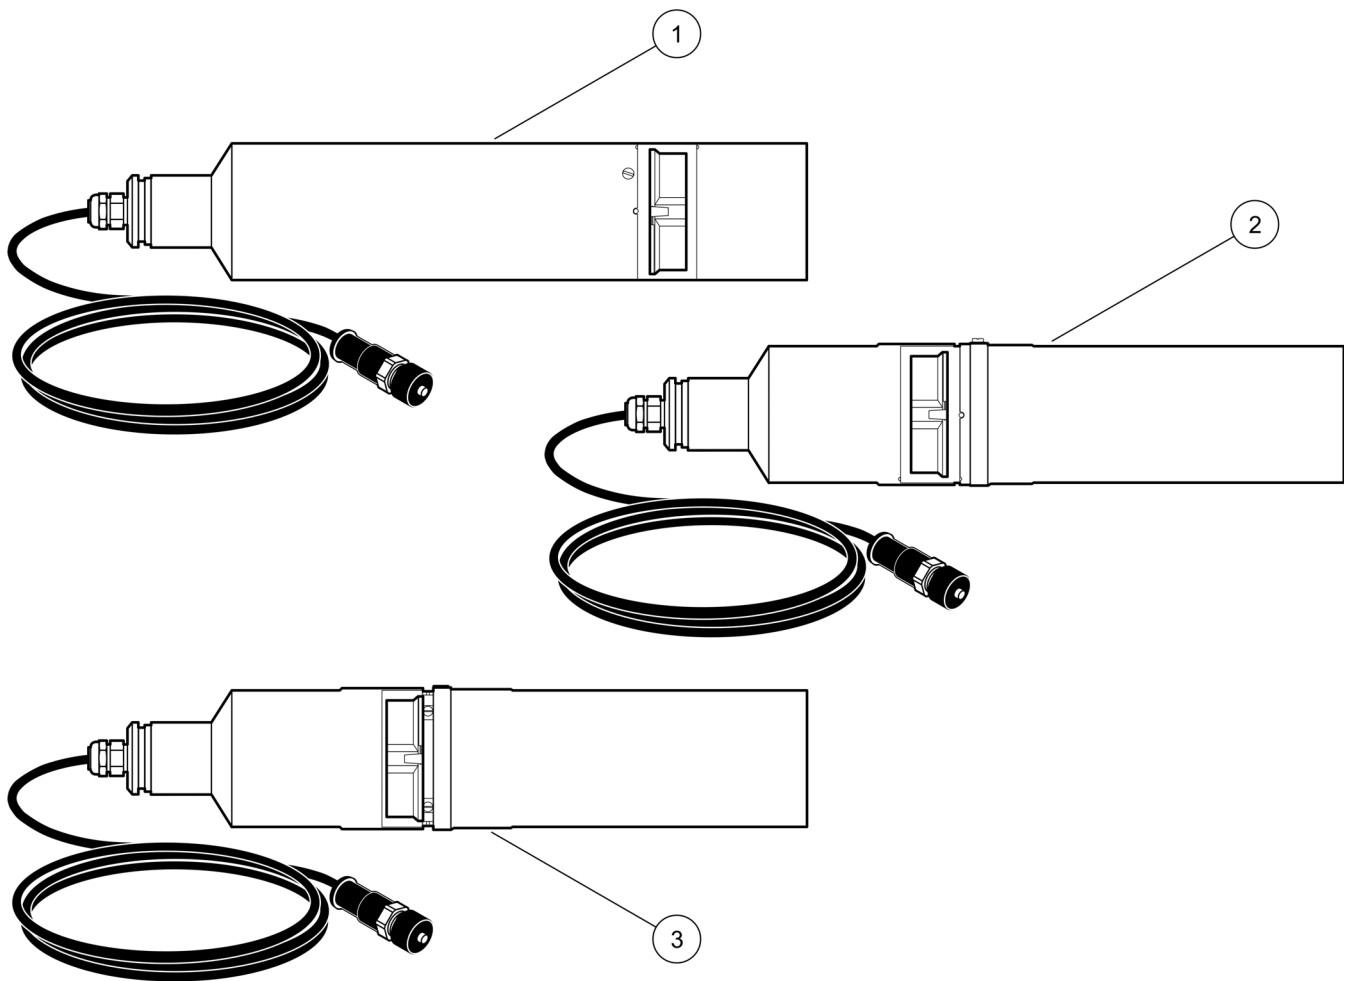

Figure 2 NITRATAX sc sensor versions
The **NITRATAX plus sc** (Figure 2, item 1) measures the nitrate concentration up to 100 mg/L N directly immersed in the medium. Use the sensor without the need for pumping and conditioning in activated sludge tanks in municipal sewage treatment plants, surface water, untreated water and treated drinking water. The system can also be used for checking the outlet on waste water treatment plants.
The **NITRATAX eco sc** (Figure 2, item 2) measures the nitrate concentration up to 20 mg/L N directly immersed in the medium. Use the sensor without the need for pumping and conditioning in activated sludge tanks in municipal sewage treatment plants.
The **NITRATAX clear sc** (Figure 2, item 3) measures the nitrate concentration up to 20 mg/L N directly immersed in the medium. Use the sensor without the need for pumping and conditioning in clear media such as surface water, treated drinking water and sewage treatment plant outlets.